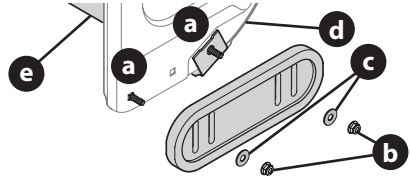

Figure 39
1. Using the two carriage bolts (a) and hex flange nuts (b) and flat washers (if equipped) (c), secure the skid shoes to the auger housing (d). Hand tighten hex flange nuts (Figure 39).